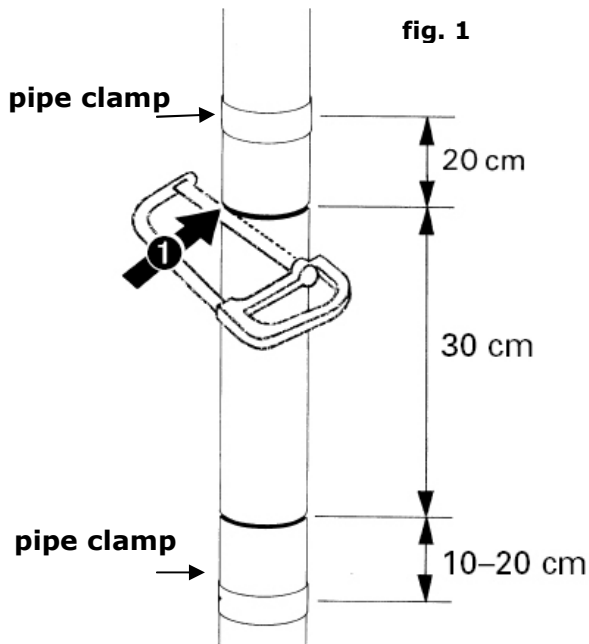

fig. 1
1. Saw through the drainpipe at two spots in the wanted installation height (**fig 1**). The cutting should be 30 cm for all of our filter collectors. The cut ends of the pipe should be burred properly by a half-round file.